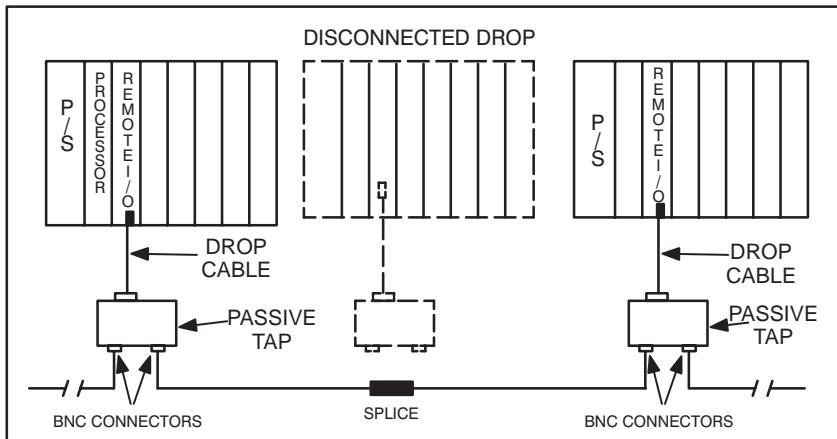

Figure 3.29 - Disconnecting an Intermediate Rack Drop from the Remote I/O Network (Coax)
Step 3. To disconnect a drop along the cable route, refer to figure 3.29 and use the following procedure: